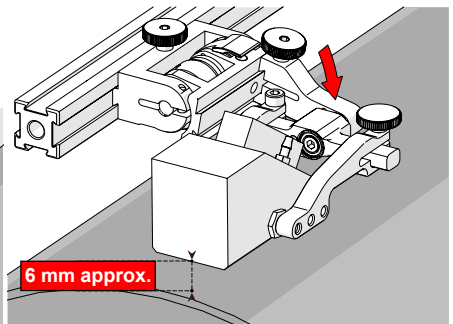

Fig. 95 - Lower to scanning surface
2. Push the probe holder yoke down toward the inspection surface until the wedge is approximately 6 mm ($\frac{1}{4}$ in) from the inspection surface (Fig. 95).